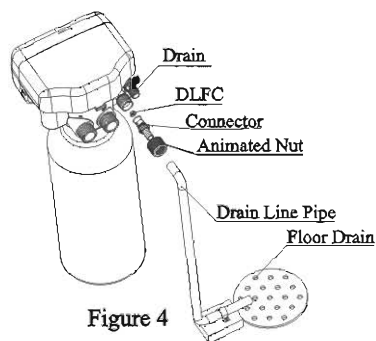

Figure 4
④Install drain pipeline
a. As the Figure 4 shows, Insert drain line flow control into drain outlet.
e. Locate the drain hose well as the Figure4 show.
● Be sure not connect drain with sewer, and leave a certain space between them, avoid wastewater be absorbing to the water treatment equipment, such as showed in the Figure4.